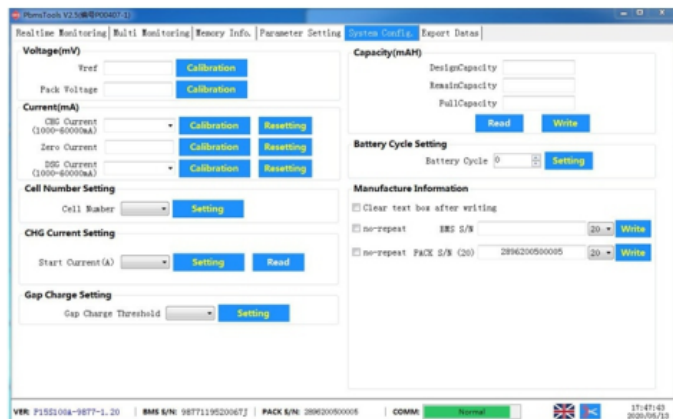

Figure 25: System Configuration
(6) In the system configuration TAB (As shown in figure 25), the TAB for battery calibration, parameters setting, the battery calibration and setting up the battery system parameters need administrator privileges.